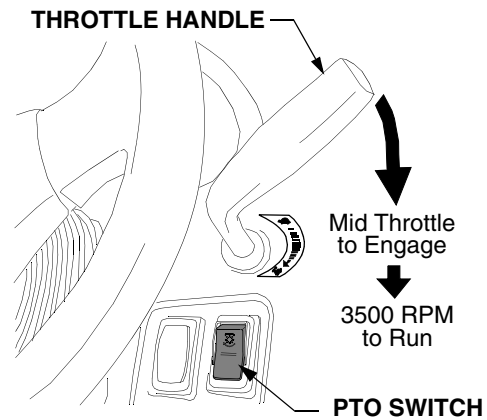

Figure 21
- Move the throttle handle to the mid throttle position. See Figure 21.
- Push the *top* of the PTO switch downward to engage the PTO (See Figure 21). The PTO light on the instrument panel will come on.